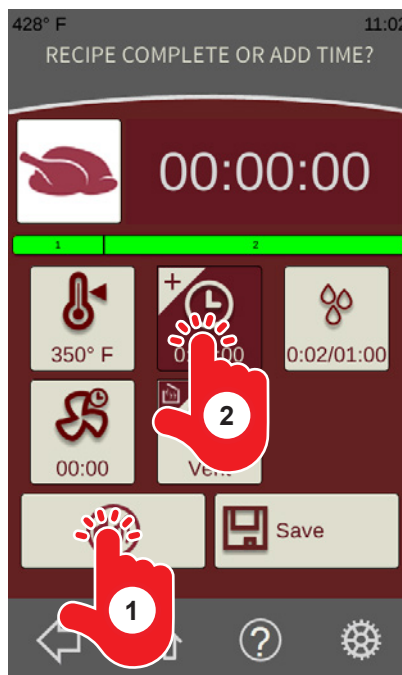

Fig. 47
1. The beeper can be silenced by touching the Beeper Silence button (Fig. 47).
2. If the product needs additional time, touch the Add Time button (Fig. 47) and enter the desired time. After the time is entered, touch the green Enter button. The timer will begin counting down.